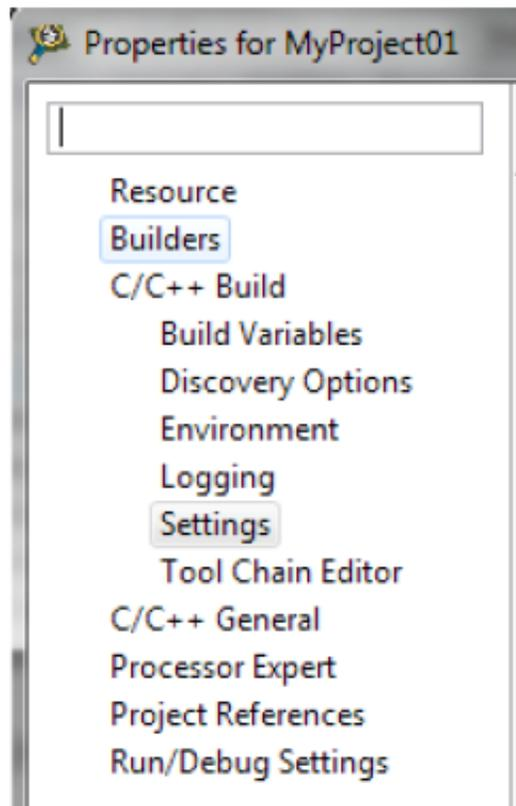

Figure 9. Project properties
7. Now, it is necessary to add the library path for the compiler. So on the left-hand side, expand the C/C++ Build node and click Settings. See Figure 9.